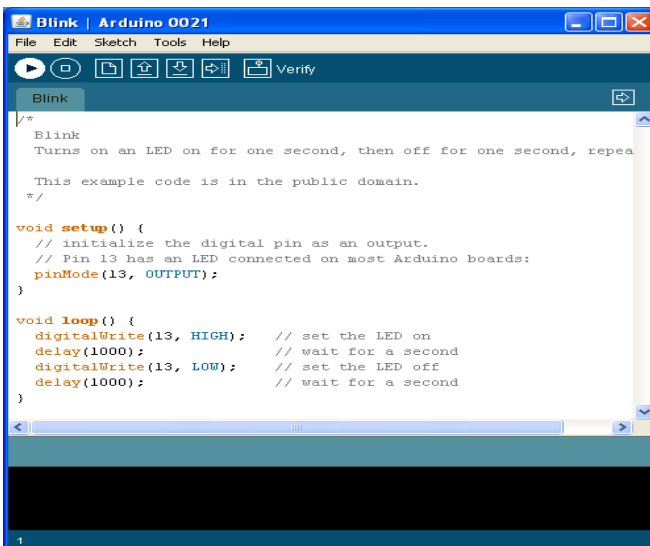

Fig. 4:
Step2: After writing the code we need to verify that the written code is whether correct or incorrect. For that we need to click at “Verify” icon. See Fig4: